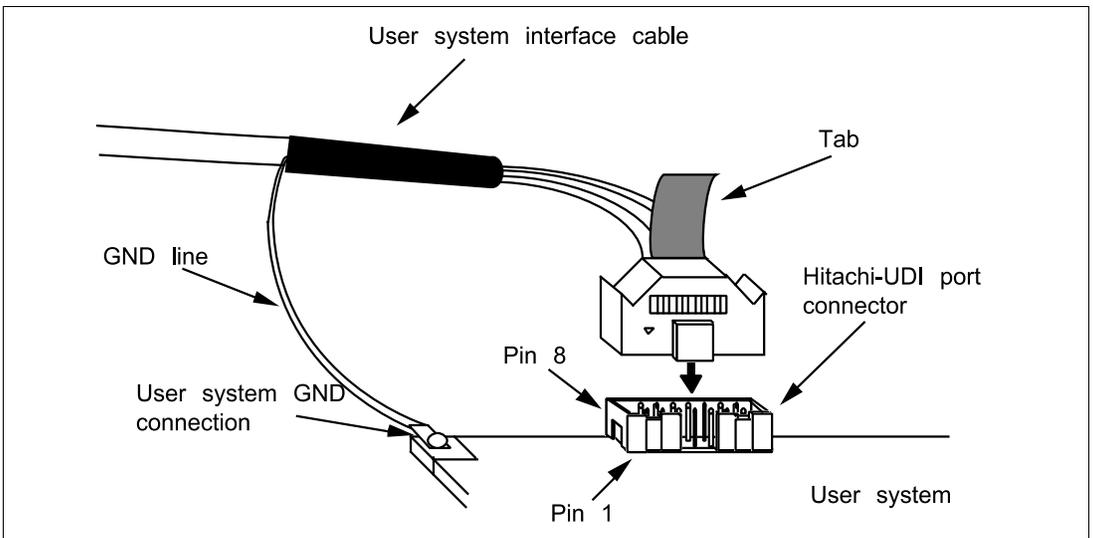

Figure 2.4 Connecting the User System Interface Cable to the User System
- (2) The pin arrangement of the connector is shown in section 6.2, Pin Arrangement of the H-UDI Port Connector.
- (3) Figure 2.4 shows how to connect the user system interface cable to the user system. Connect the ground line of the cable to the user system ground. The end of the ground line has a hole having a diameter of 3 mm, and therefore, when the ground line is screwed to the user system, the screw diameter must be 3 mm.